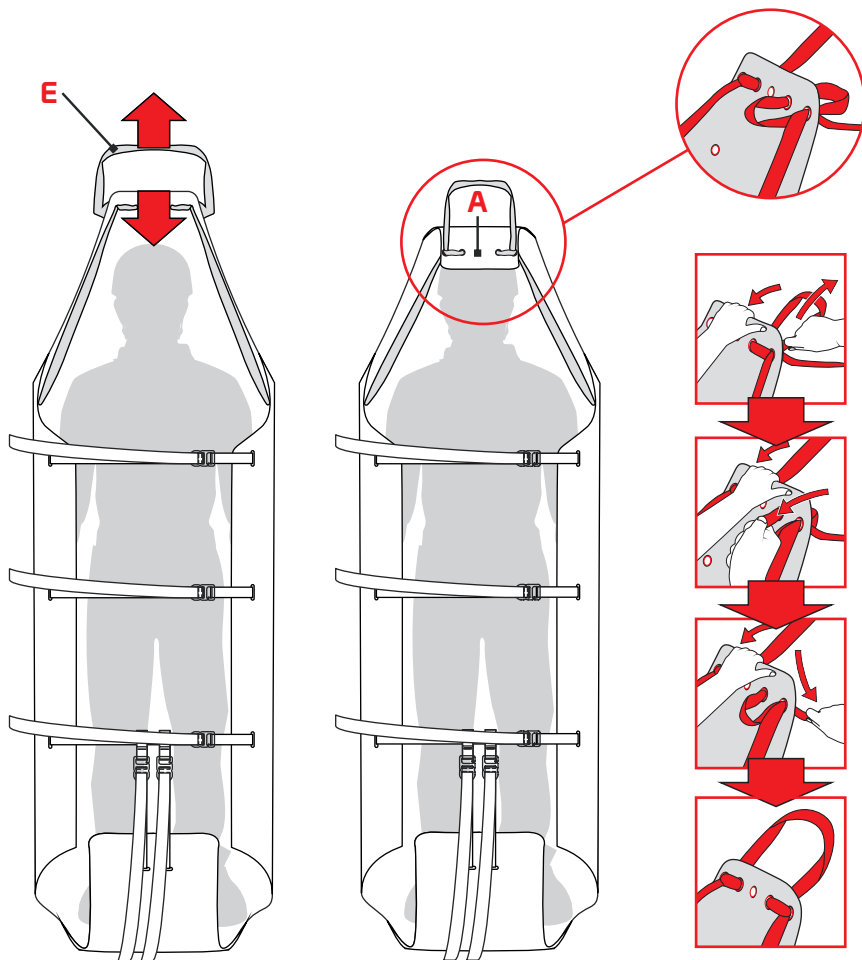

Fig.19
c) Tension the sling (E) to lift the end part of the support surface (A) enough to contain the head of the patient and immobilise it (fig. 19).